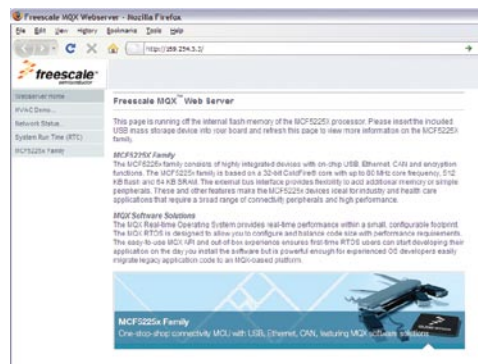

Figure 4: HVAC Web demo page running from internal memory
- You should see the Web-server welcome page in the browser window, as seen in Figure 4.